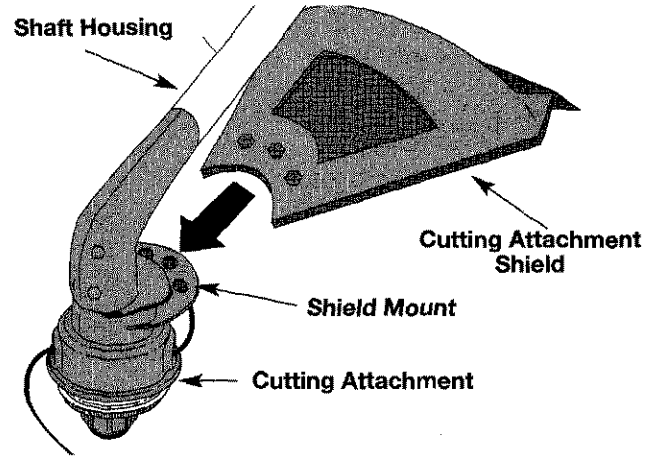

Fig. 6
1. Slide the cutting attachment shield into the shield mount on the cutting attachment. Align the screw holes in the shield with the holes in the cutting attachment (Fig. 6).